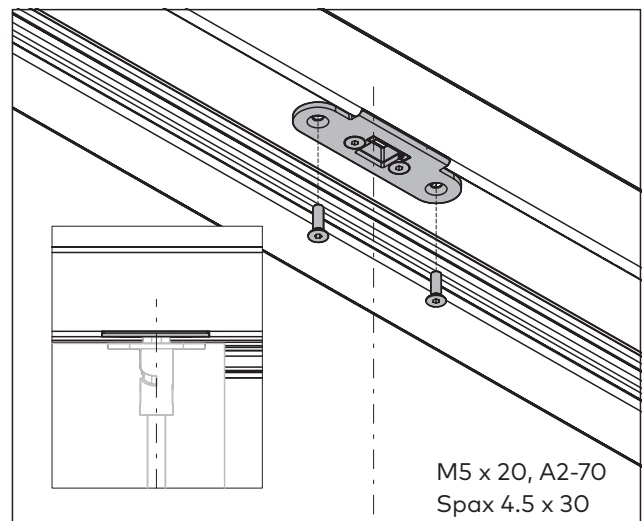

Fig. 53 Mount rod striking plate
- 17.** Mount the rod striking plate for the upper espagnolette bolt in the door frame (Abb. 53).